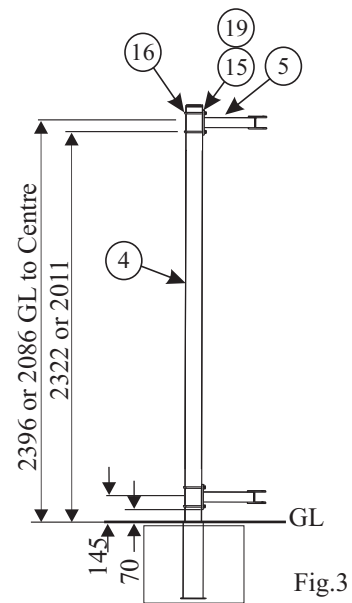

Fig.3
**2** Insert the Support Posts (4) into the Sockets and fix the Support Arms/Post Hinges (5) to the Posts using M10 Nuts (15), Washers (19) and U-Bolt (16), positioning the Arms so that the Arm Plate is 70mm and 2321mm (for FBL-613/615/713/715) or 2011mm (for FBL-614/616/592/593/714/716) respectively from Ground Level (as shown in Fig 3).